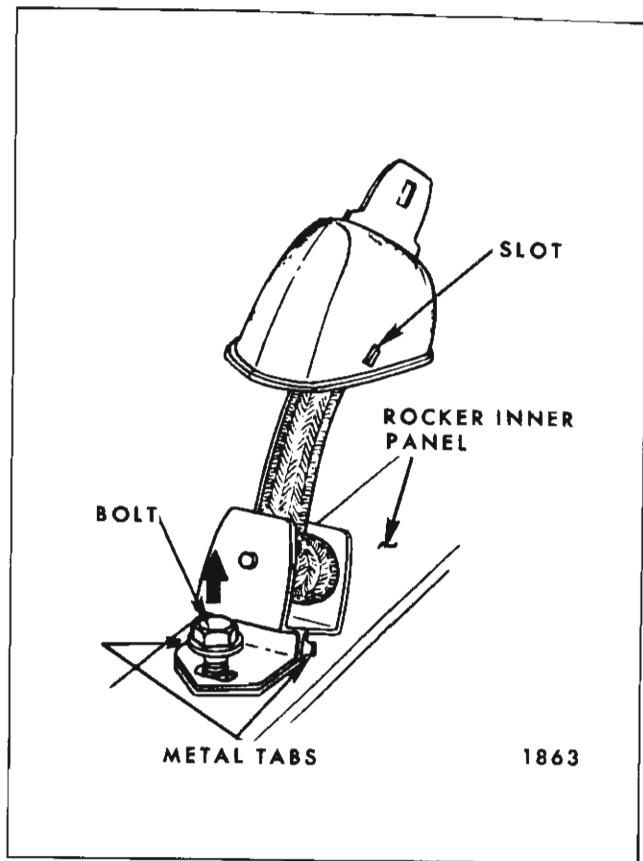

Fig. 1H48—Removal of Seat Belt Retractor — All except 15000 - 16000 Series
from side of floor pan tunnel. (See Fig. 1H42).
2. From front of seat pull seat belt thru protector and from between front seat cushion and back. (See Fig. 1H43).